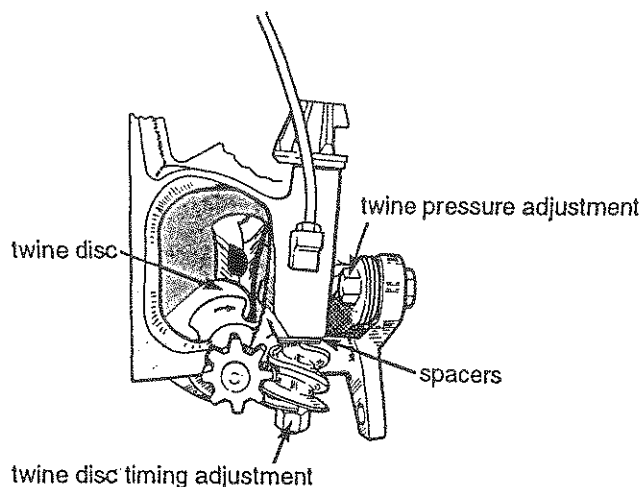

Fig. 25
The twine holder holds the twine in the twine disc while the bale is being made and tied. The pressure is regulated by bolt (A), see **Fig. 25**.
2. Adjust the twine disc notch so the left-hand side of the notch is even with the cleaner (B), see Fig. 25. Do this by loosening nut (C) several turns. Tap the nut end of the shaft to loosen the worm.
3. After the disc is set, turn the worm against the spacer washers (D), see Fig. 25, and tighten the nut.